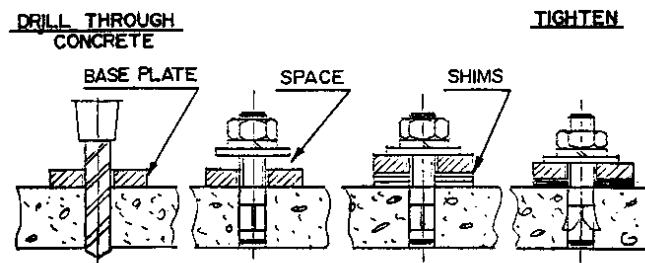

Figure 9 - Anchoring
1. Using a rotary hammer drill and a ½" concrete drill bit, drill through the floor in the six (6) anchor bolt locations on each of the base frames. Make sure that the ½" concrete drill is in good condition. Refer to Figure 9.